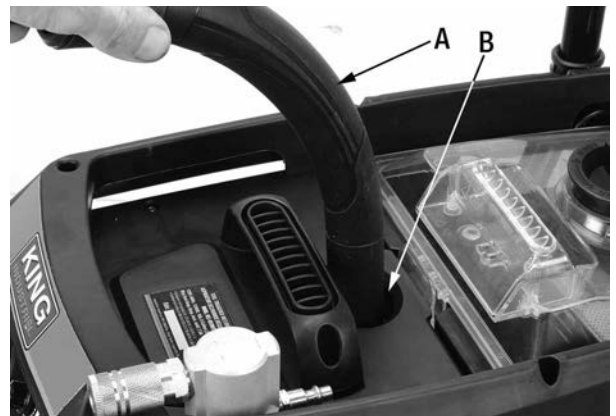

FIGURE 17
1. With the flexible hose installed in the front inlet or the top inlet, and the vacuum turned on, position the end on the hose (A) Fig.17 onto the depress button (B). Press down and release, repeat step 3-5 times.